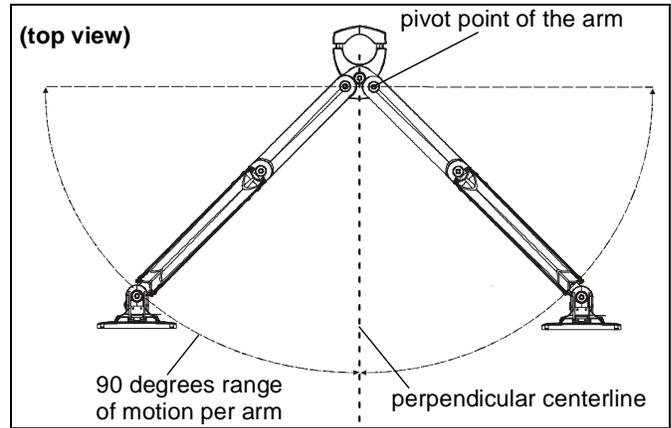

**Figure 16**
1. Adjust arm angle as desired up to 90 degrees in either direction. (See Figure 16)